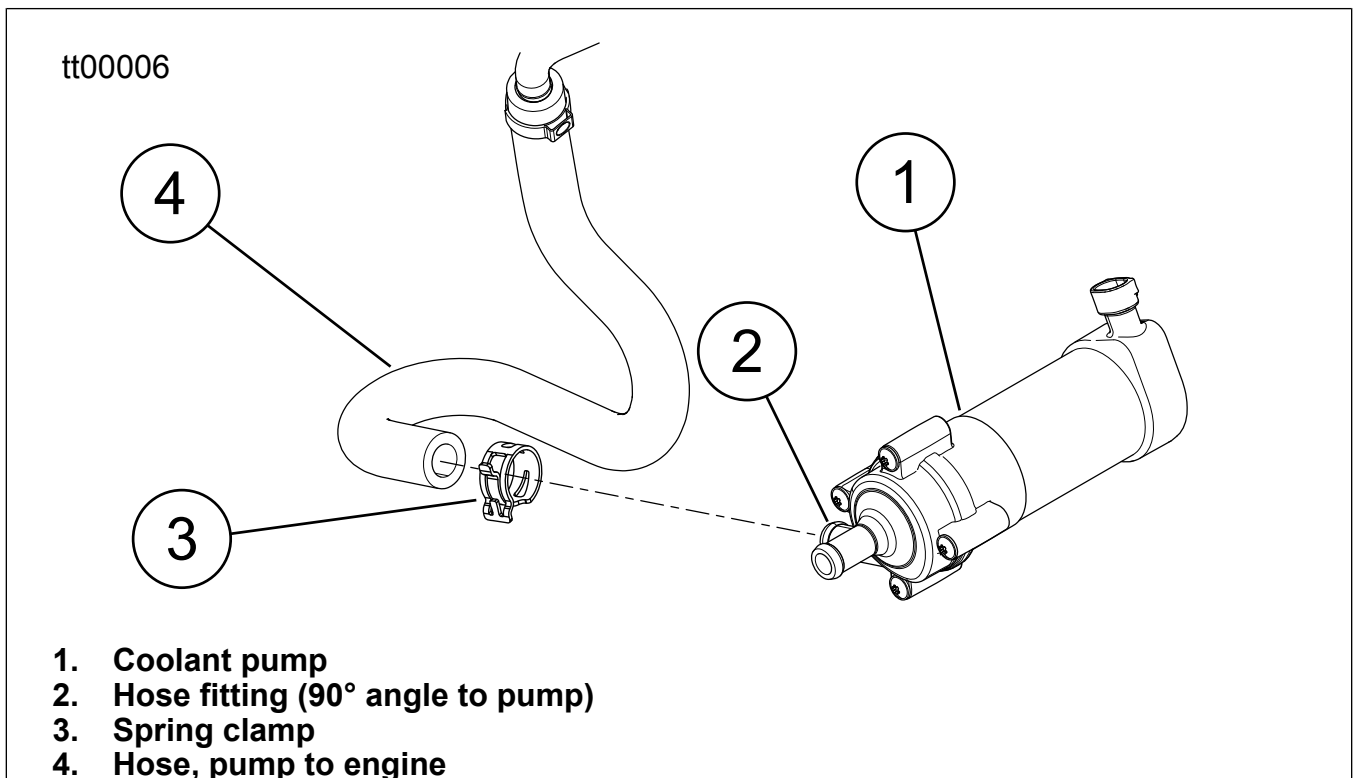

Figure 2. Accessing Coolant Pump Impeller
- See Figure 2. Remove the spring clamp (3) from the hose fitting (2) on the bottom of the pump (90° angle to the pump) and coolant will drain. With the pump not running, **gently** insert a small screwdriver into the fitting on the pump and move the impeller blades. You should be able to feel the impeller turning as you roll the impeller blades with the screwdriver tip.